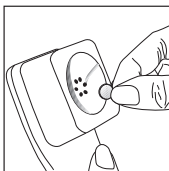

Figure 1
2. Hold the magnet near the “listening end” of your telephone receiver and release it (Figure 1). The magnet will flip to the appropriate side and seek the optimal position on the telephone receiver.